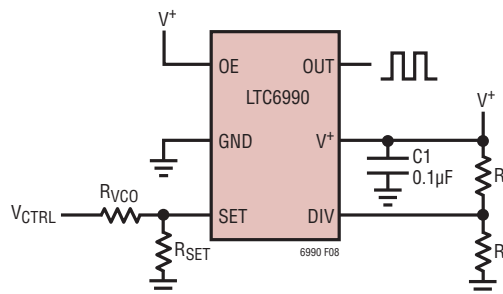

Figure 11. Voltage Controlled Oscillator
Operating the LTC6990 as a voltage-controlled oscillator in its simplest form is achieved with one additional resistor. As shown in Figure 11, voltage  $V_{CTRL}$  sources/sinks a current through  $R_{VCO}$  to vary the  $I_{SET}$  current, which in turn modulates the output frequency as described in Equation (2).